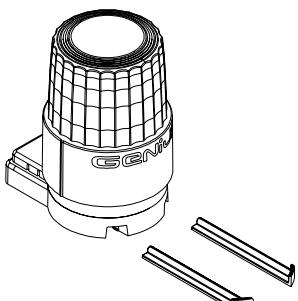

Fig. 11
- 13- Montare le due slitte anteriori come in Fig. 11.
- 13- Fit the two front slides as shown in Fig. 11.